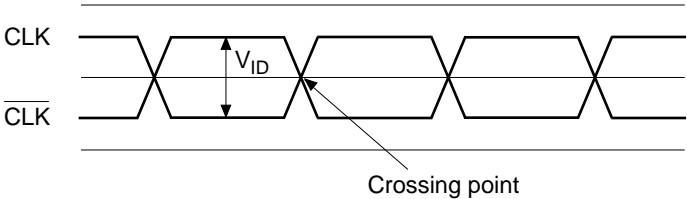

Figure 1 Differential input levels
- 2. Differential cross point voltage is expected to track variations of V_{DDQ} and is the voltage at which the differential signals must be crossing. (See figure1)